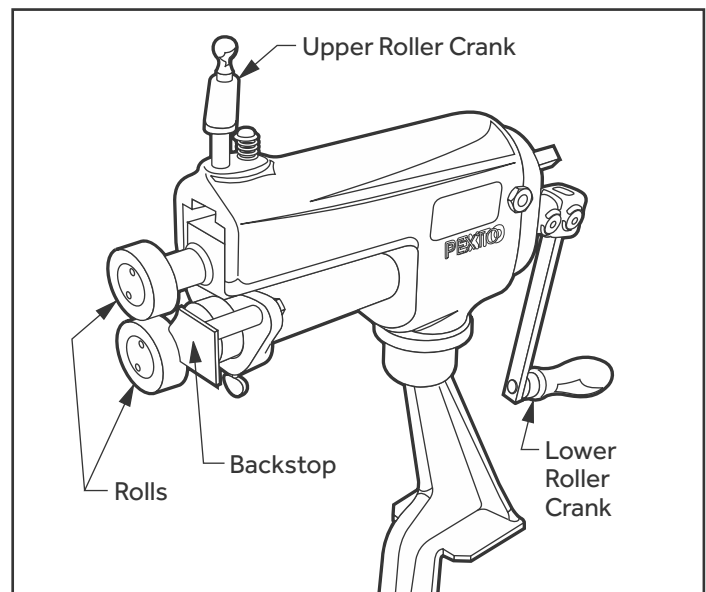

Fig. 19: Flanging Tool Setup
5. Flange Tool Setup: Assemble tool per the manufacturer's directions. (Fig. 19) The rolls must be clean, undamaged and burr free. Any metal filings, chips, dirt or abrasive material will damage the coating. Roll flanges in a clean work site that is not near any grinding or welding operations. The rolling dies are custom rolls supplied by Fab-Tech, ground smooth and hardened to provide an accurate and burr free surface to work the coating during the flanging process.